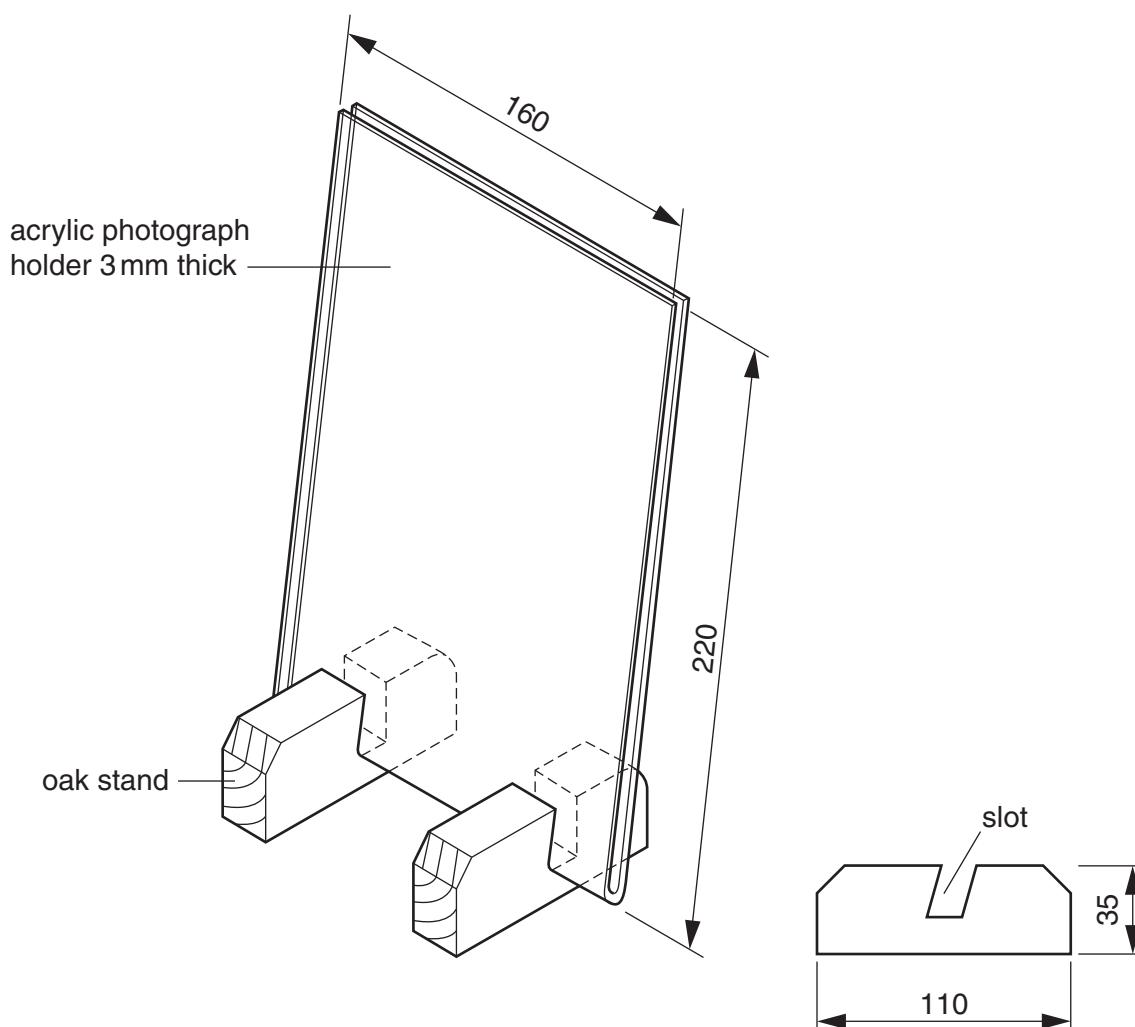

Fig. 1
- 1** Fig. 1 shows views of a photograph holder and stand.